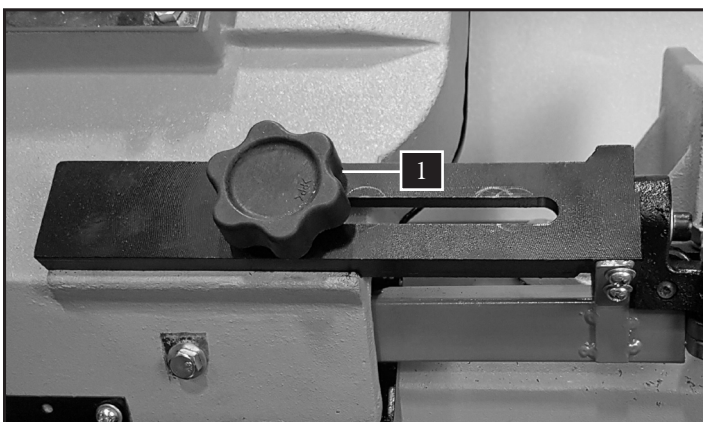
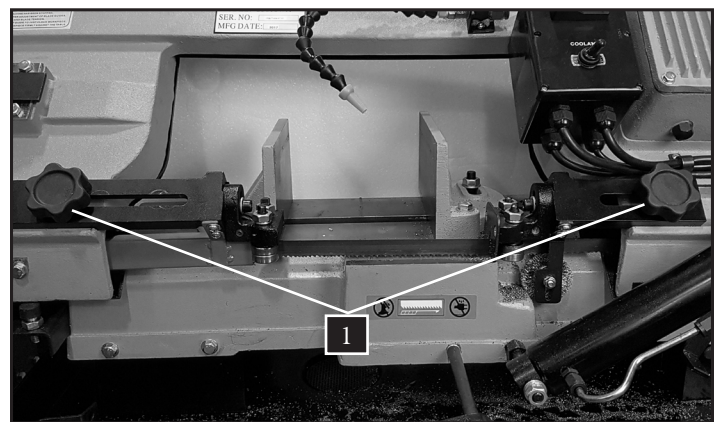

Fig. 16
Fig. 15
There are two blade guide assemblies (Fig. 15 - 1) on the left and right of the exposed blade. Adjust the position of the blade guides to just clear the workpiece.
1. Loosen the blade guide adjustment knobs (Fig. 16 - 1)
2. Move the blade guide brackets (Fig. 15 - 1) closer to the center of the blade for easier adjustments. Tighten the blade guide knobs (Fig. 16 - 1)